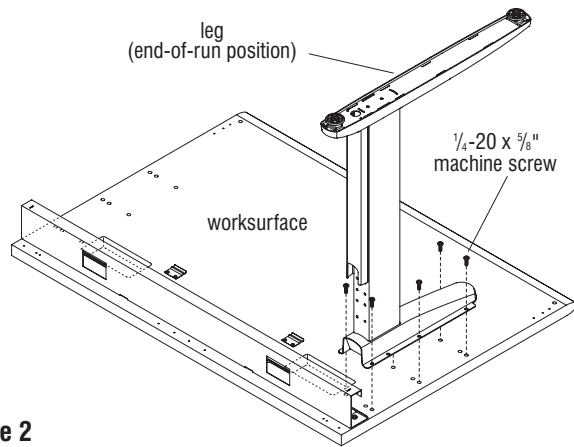

Figure 2
3. Attach legs to underside of worksurface into the steel inserts with 1/4-20 x 5/8" machine screws, noting whether the leg is in a shared or end-of-run position. For ease of installation, start all screws before tightening. Any leg can be used for either a shared or end of run condition (Figures 2 and 3).